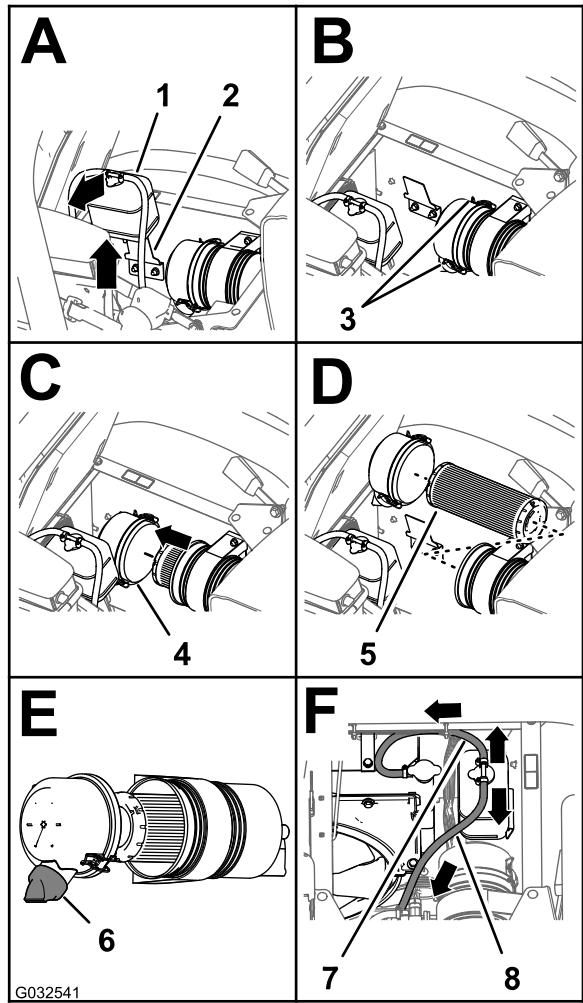

Figure 77
- Lift the coolant-overflow tank up and off the tank-support bracket (Figure 77).
- Loosen the 2 latches that secure the dust cap to the air-cleaner body (Figure 77).
- Clean the inside of the dust cap, air-cleaner body, and dust valve with a damp rag (Figure 76 and Figure 77).
- Insert the air-filter element into the air-cleaner body (Figure 77).
- Install the cover onto the air-cleaner body and secure the cover with the 2 latches (Figure 77).
- Note:** Ensure that the dust valve is aligned between the 5 to 7 o'clock position when viewed from the end (Figure 77).
- Align the coolant-overflow tank to the tank-support bracket and seat the tank firmly (Figure 77).
**Important:** Ensure that the pressure-relief hose is routed forward and down, and the tank-vent hose is routed rearward as shown in Figure 77.